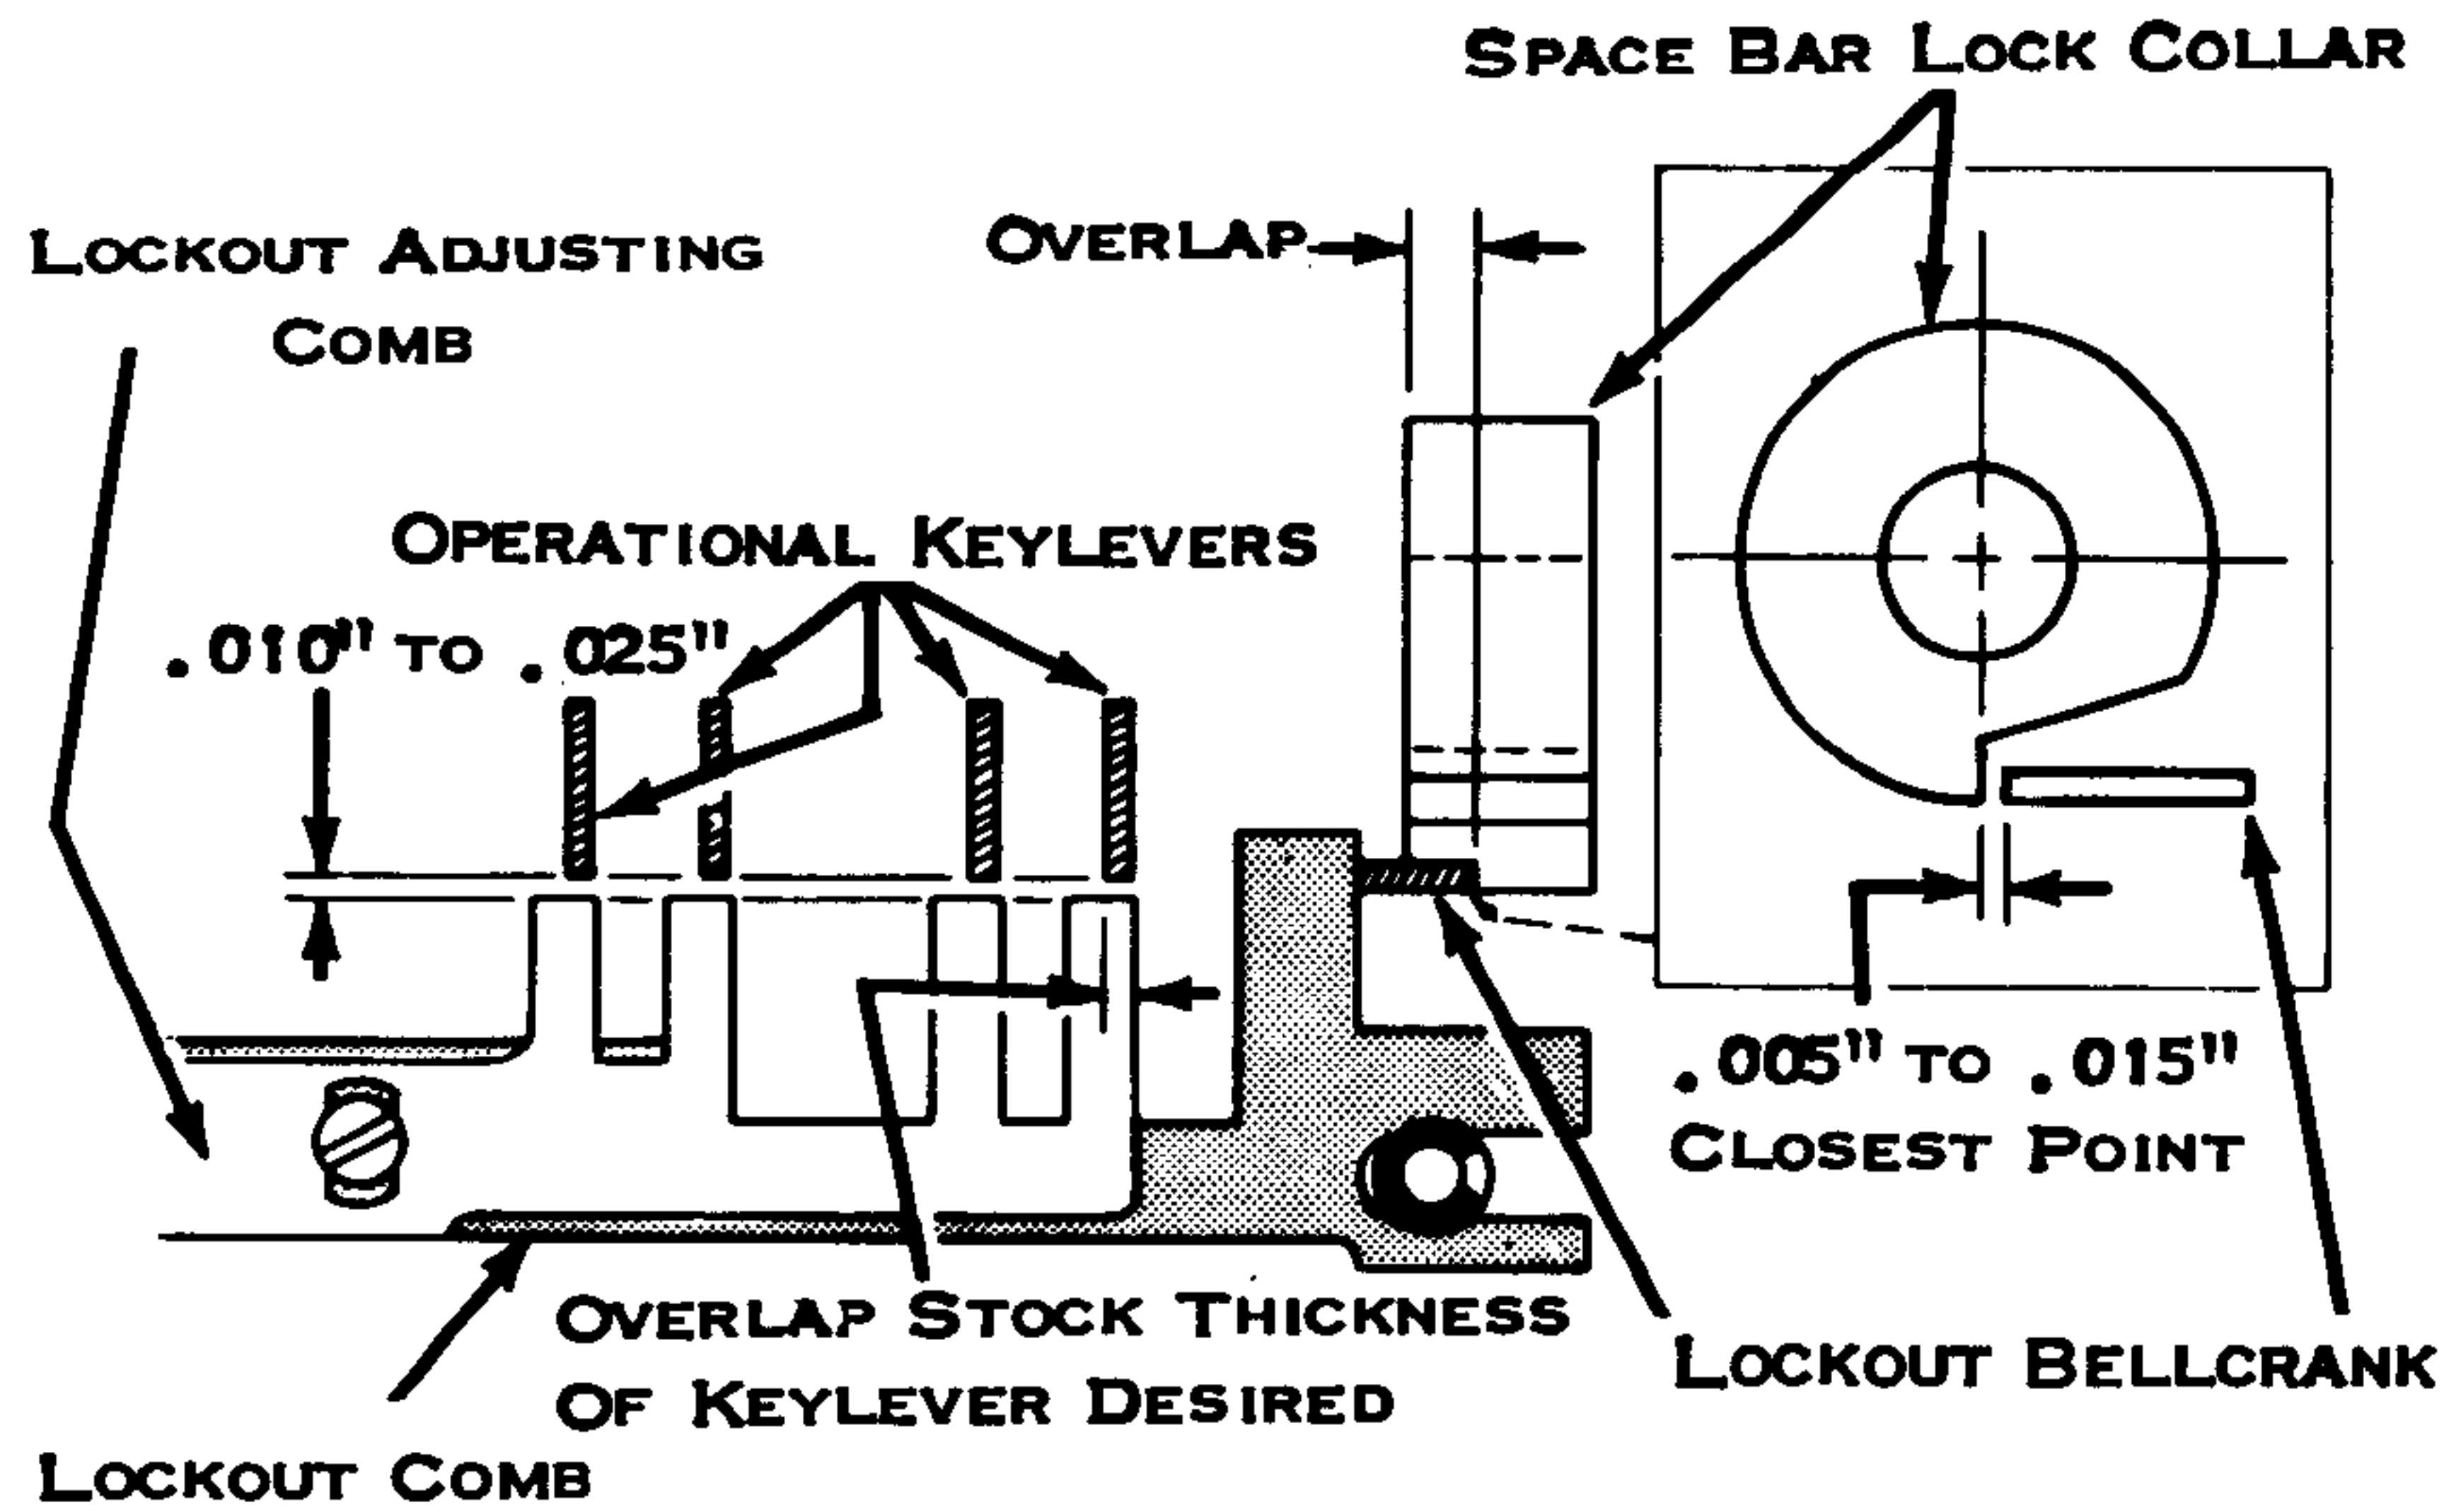

Figure 43. Adjusting Comb, Keyboard Locked
- b. Radially, so that the leading edge on the step of the collar clears the lockout bellcrank by .005" to .015" with the keyboard locked (Fig. 43).
5. Position (up or down) the lockout adjusting comb to clear the bottom of the operational keylevers by .010" to .025" with the keyboard locked (Fig. 43).